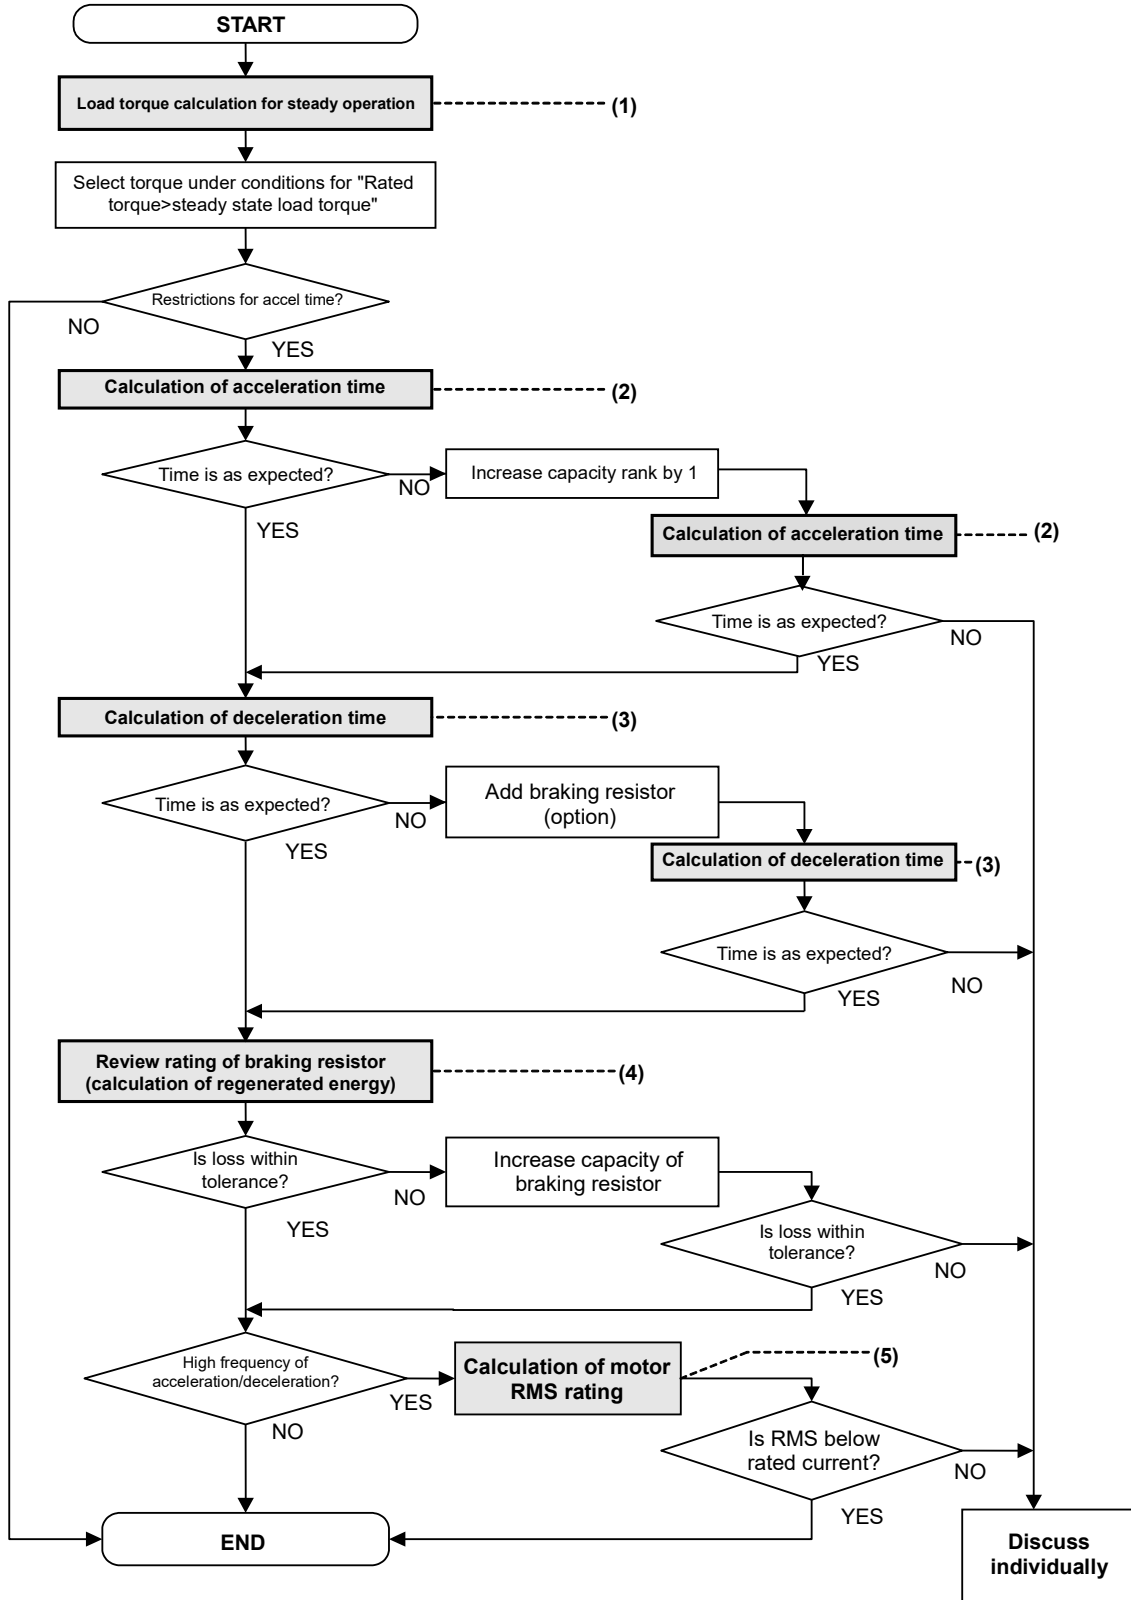

Figure 9.1-2: Procedures for capacity selection
Figure 9.1-2 Procedures for capacity selection (flowchart) shows a typical procedure for selecting capacity. The steps numbered from (1) to (5) in the flowchart are described in detail on the following pages.